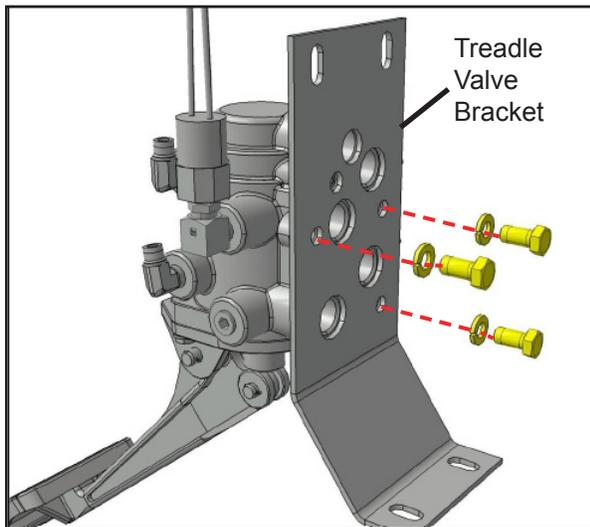

Figure 12: Reinstall bolts and nuts to connect the new bracket (P/N 3143190) to the treadle valve.
13. Reinstall and finger tighten the three sets of 3/8" bolts and lock washers from step 11 (Figure 12).